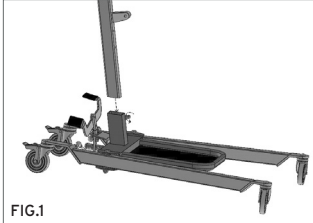

FIG.1
1. Unscrew the screw at the base of the column. (Fig.1)
2. Fit the column into the provided cavity of the base. Fit the screw that blocks the column to the base and screw it well. (Fig.1)